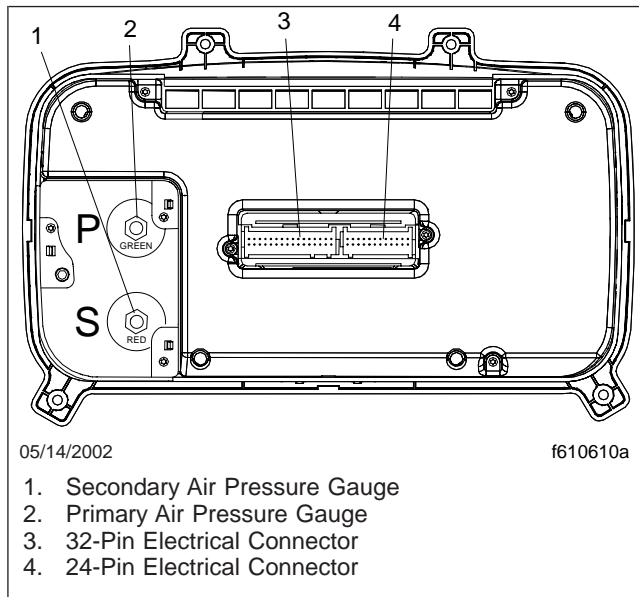

Fig. 4, ICU3-M2, Rear View
6. Unplug the two electrical connectors from the back of the ICU. See Fig. 4.
1. Connect the air hoses to the air gauges by pressing the correct air line firmly into its push-lock connector on the back of the gauge. The primary (upper) gauge connects to the green air line. The secondary (lower) gauge connects to the red air line. See Fig. 4.